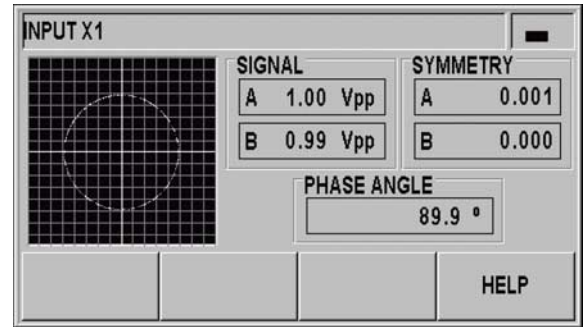

Fig. II.38 Encoder test: 1 Vpp interface
- ▶ As the encoder is moved, you will see the signals of the A and B channels as Lissajous figure (see Fig. II.38), as well as the amplitude, symmetry and phase offset values.